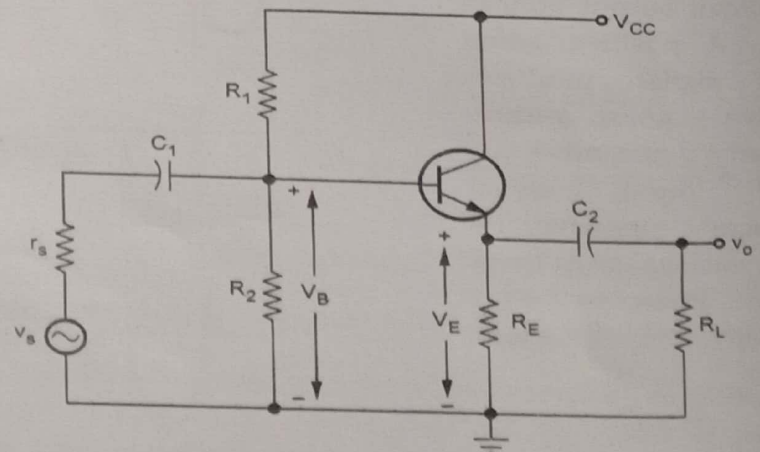

Fig. Q.24.1 CC amplifier circuit
Ans. : • Fig. Q.24.1 shows the common base (CC) amplifier circuit. Here, the external load (R_L) is capacitor - coupled to the emitter. The circuit uses voltage - divider bias to provide DC bias.